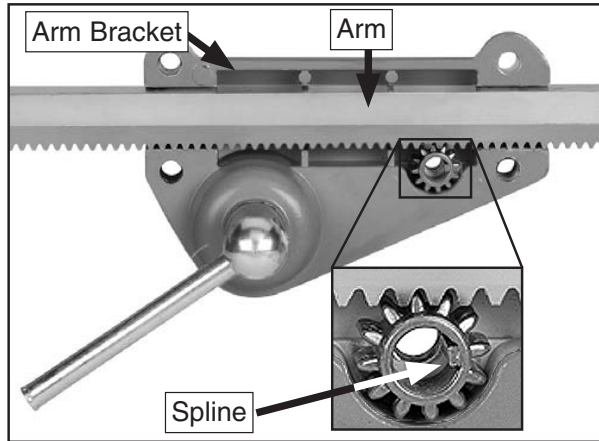
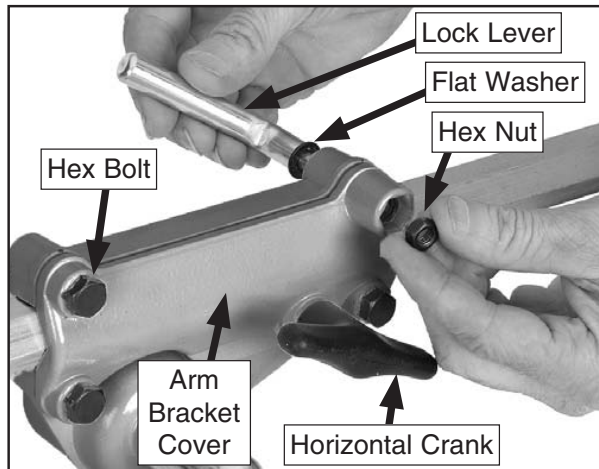

Figure 9. Arm bracket gearing.
Figure 10. Assembling arm bracket.
- Place the arm into the arm bracket so the teeth of the gear and arm mesh, as shown in **Figure 9**.
- Install the arm bracket cover and lock lever with the remaining hex bolts washers and nut, as shown in **Figure 10**.
- Insert the horizontal crank (see **Figure 10**) completely so it engages the spline in the gear (see **Figure 9**).